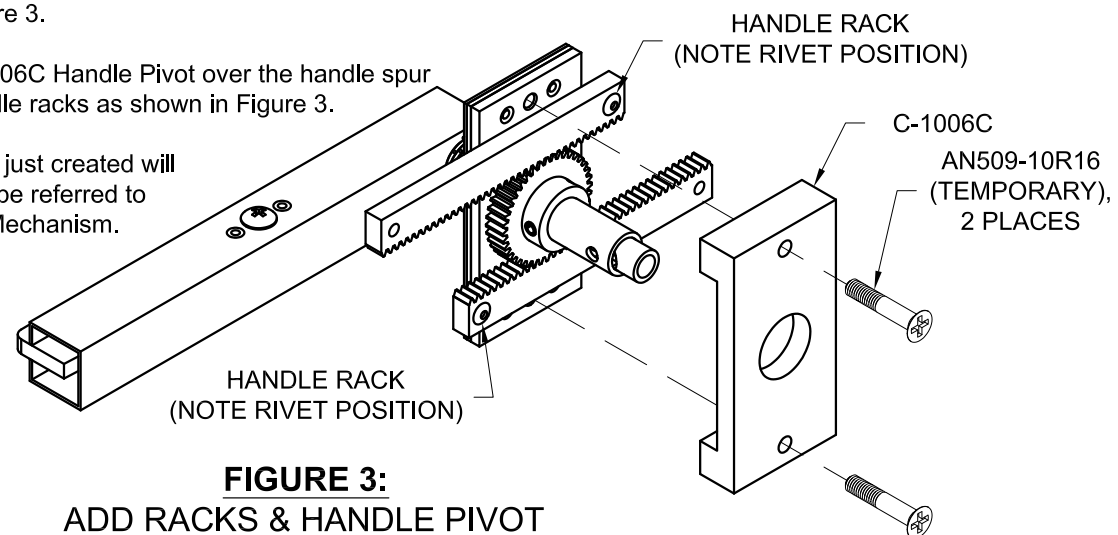

FIGURE 3: ADD RACKS & HANDLE PIVOT
Step 3: Place two Handle Racks on the C-1014 Handle Spur Gear as shown in Figure 3.
Slide the C-1006C Handle Pivot over the handle spur gear and handle racks as shown in Figure 3.
Remove the latch mechanism and replace the rack trimmings with the Handle Racks (created per Page 45-11, Step 1) as shown in Figure 3. Because of the size of the latch pocket in the door and the length of the handle racks, the latch mechanism must be assembled "in-position" in the latch pocket.